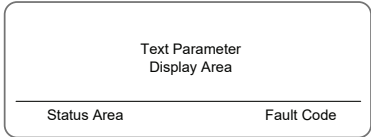

Figure 24 Main interface
- The main interface of the LCD screen is shown as the Figure 24:
- (1) The curve displays the power changing at the current day;
- (2) The words on the screen display the current key parameters of the inverter. Three lines of words are displayed at a time, but if the inverter is in operation or stand-by state, the words are rolling forward at every 3s. And the user can press "▲" or "▼" to look up the information freely;
- (3) State display area displays current running state of the inverter, which can display "self-inspection", "grid-connected power generation", "alarm", "fault" and "OFF" state;
- (4) Dynamic fault code and menu entrance. When the state display area displays "alarm" or "fault", the dynamic fault code area will display corresponding fault code (display up to 8 fault codes).